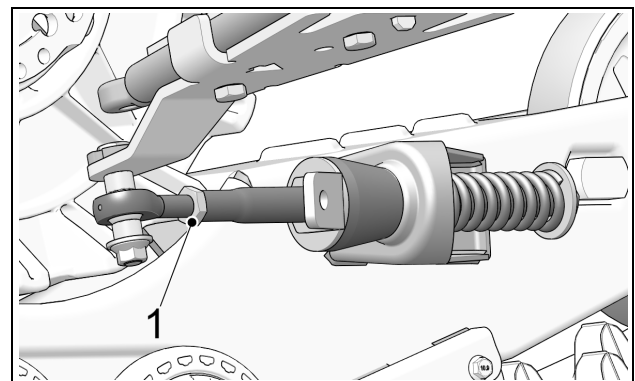

Figure 6
- When angle of attack is correctly set, tighten the jam nut (1) back against the stabilizing arm to 40 N·m [30lb·ft] of torque. See Figure 6.